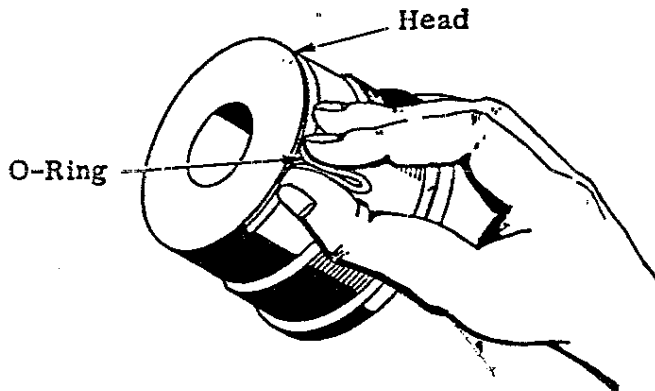

Figure F-3. O-Ring Removal
10. Work a slack section into the head seal static o-ring and pick it up out of the groove (Figure F-3). Lift the static back-up out of its groove with the needle-nose pliers.